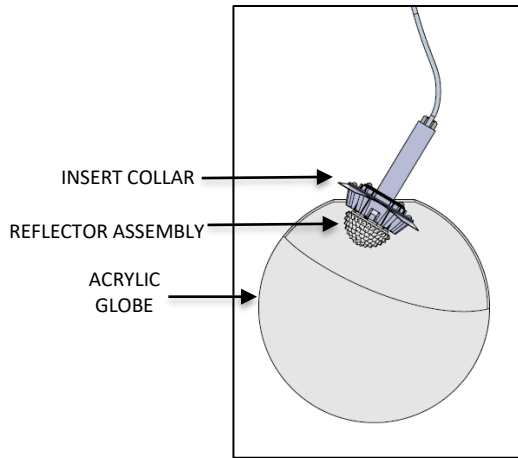

FIG. 39 – ACRYLIC GLOBE INSTALLATION
31. Tilt and insert the REFLECTOR ASSEMBLY through the ACRYLIC GLOBE as shown in FIG. 39.